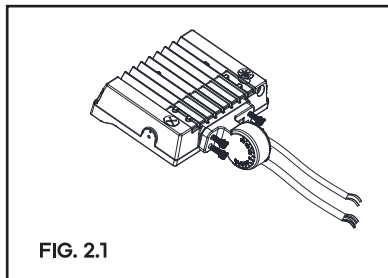

FIG. 2.1
STEP 2. Pass the fubber wire through the mounting head of the bracket and secure it with an inner hexagon screw. (Be careful not to scratch the wire). **FIG. 2.1**